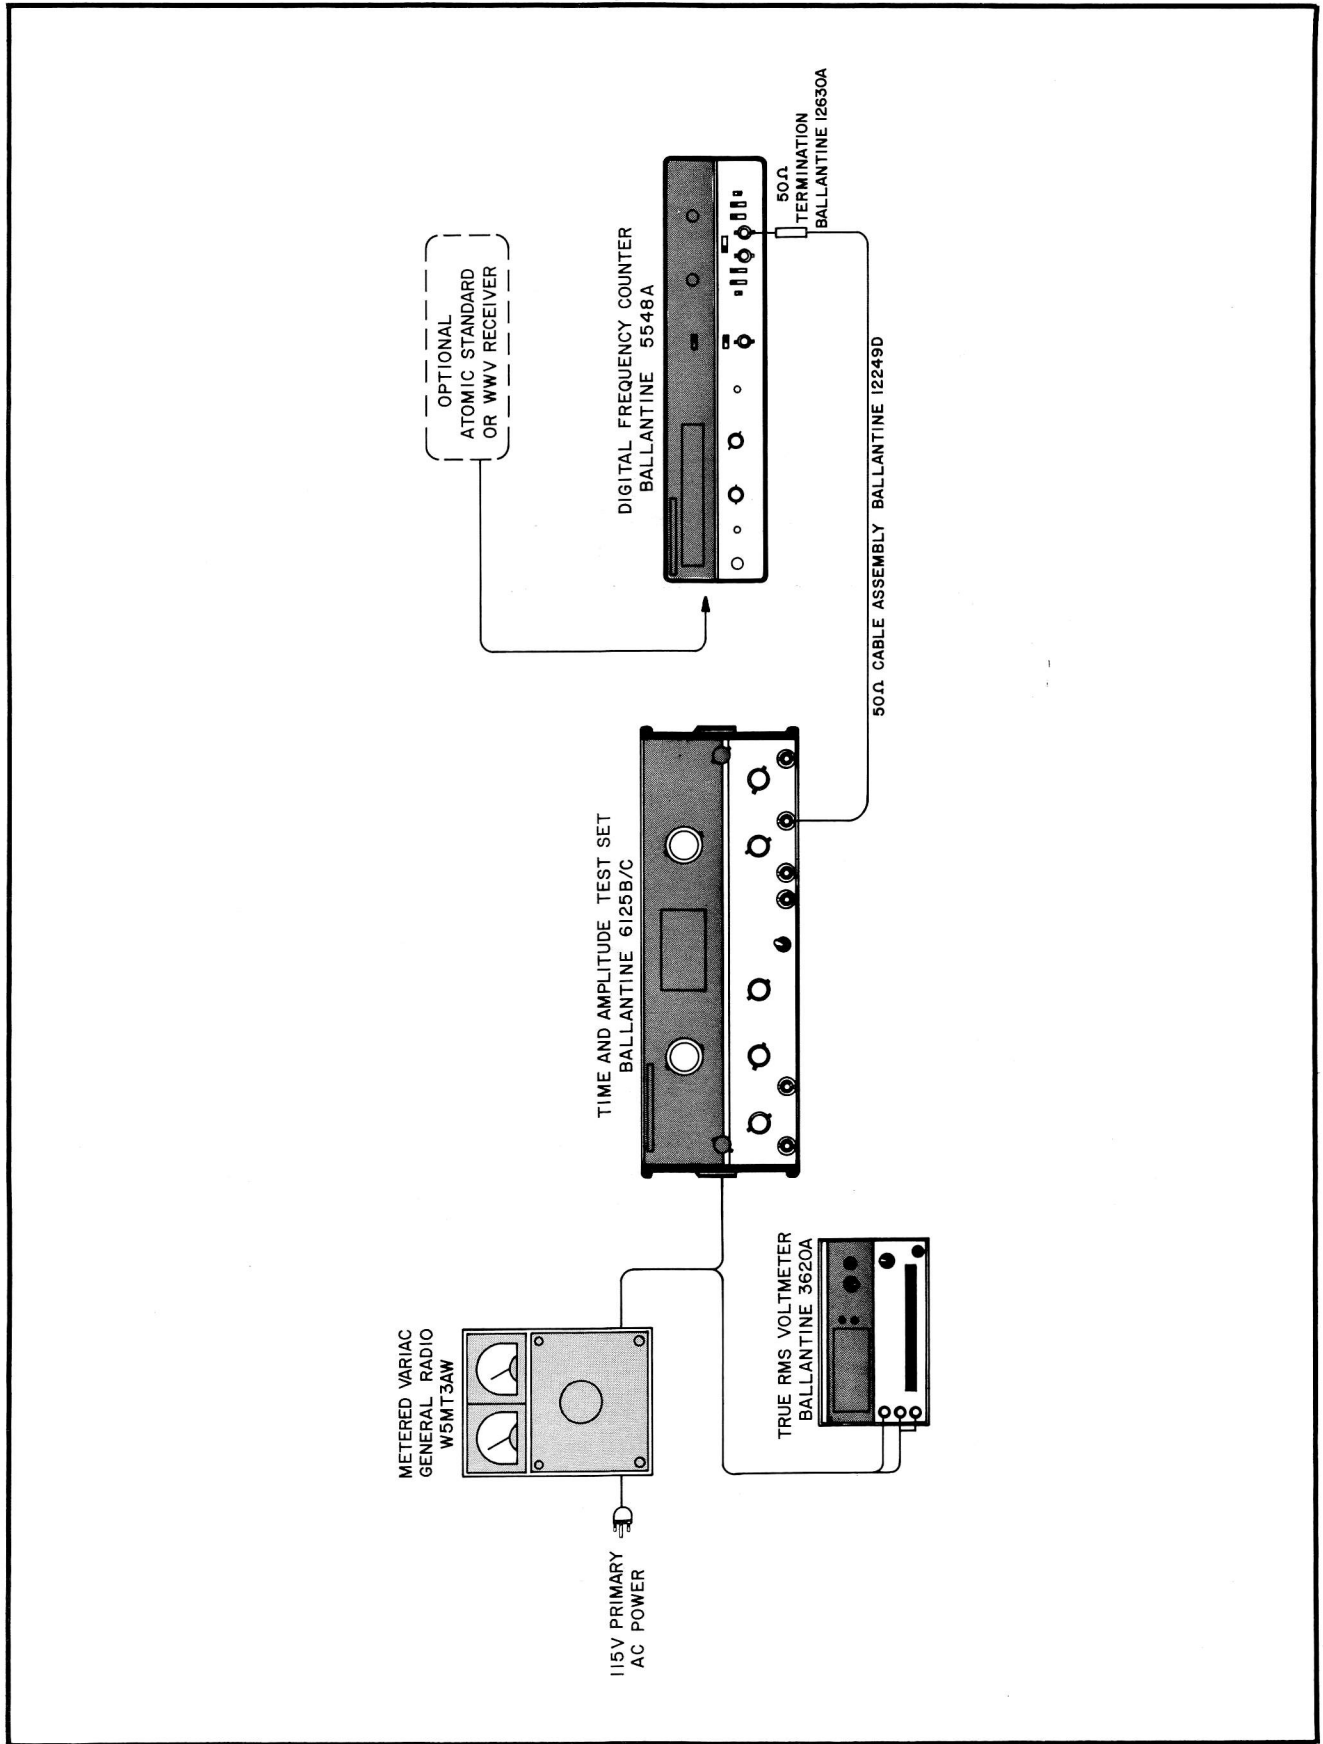

Figure 5-1. Clock Frequency Check. Bench Test Setup.
a. Interconnect the generator and the test equipment as shown in Figure 5-1.
- b. Connect a frequency counter to the MARKER OUT BNC as shown in Figure 5-1. Observe a frequency of 100,000 Hz (± 50 Hz) displayed on the counter.